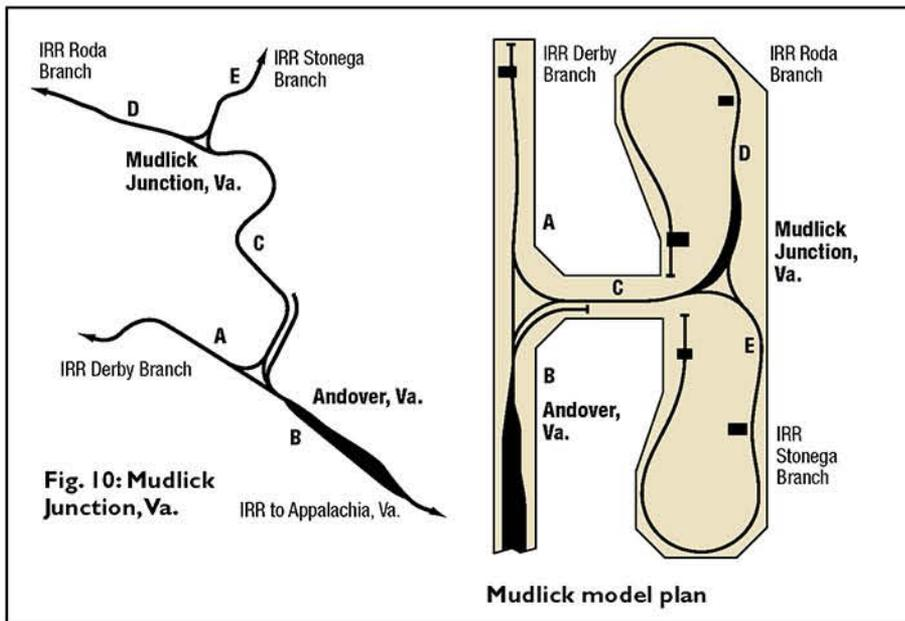

Fig. 10: Mudlick Junction, Va.
Branch (E) and the remainder of the Roda Branch (D) (**fig. 10**).